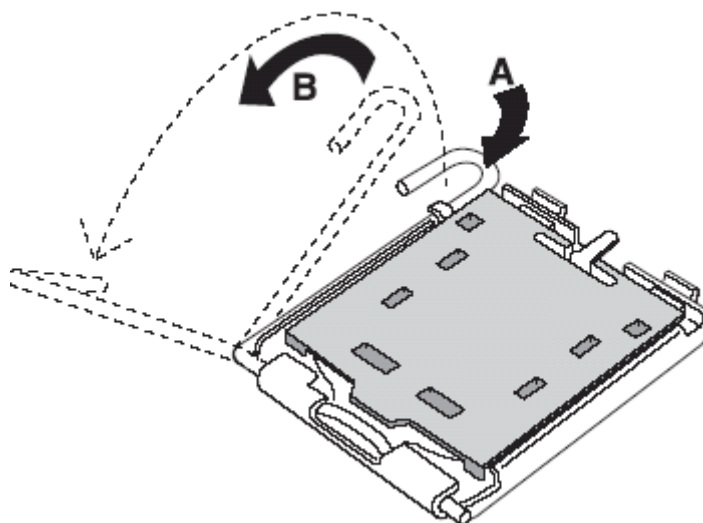

Figure 3-1
- 1) Lift the handling lever of CPU socket outwards and upwards to the other end. Following step A position to step B position (Figure 3-1).